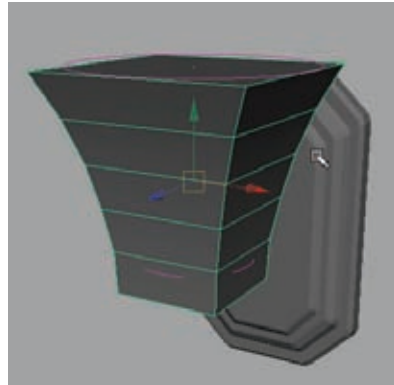

Figure 6.2
9. Increase the End Flare X and Z values to 2 to flare out the top of the cube. Modify the Curve value until you have the curvature that you want for the sconce (Figure 6.2).